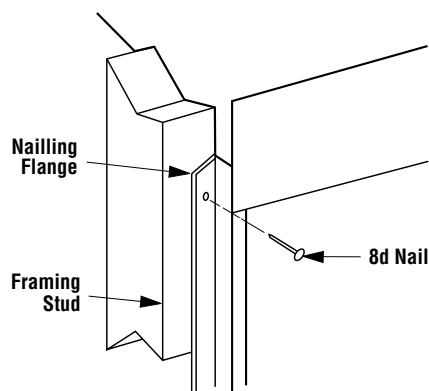

Figure 18
Step 5. Fireplace should be secured to side framing members using the full length nailing tabs at the top and bottom of the fireplace front face. Use 8d nails (Figure 18).